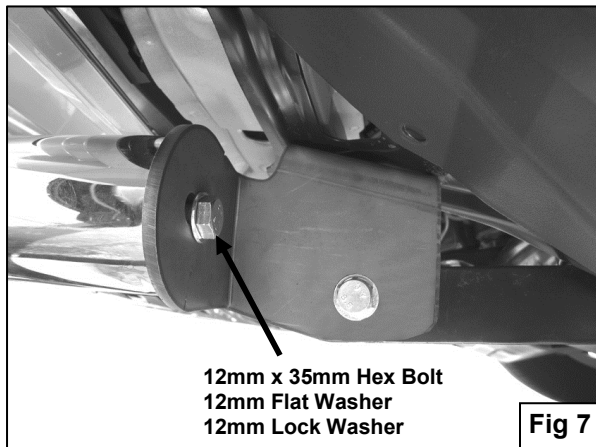

Fig 7
12. With help position Bull Bar onto Mounting Brackets. Attach Bull Bar to Mounting Brackets using the included (2) 12mm x 35mm Hex Head Bolts, (2) 12mm Lock Washers, and (2) 12mm Flat Washers (**Figure 7**).